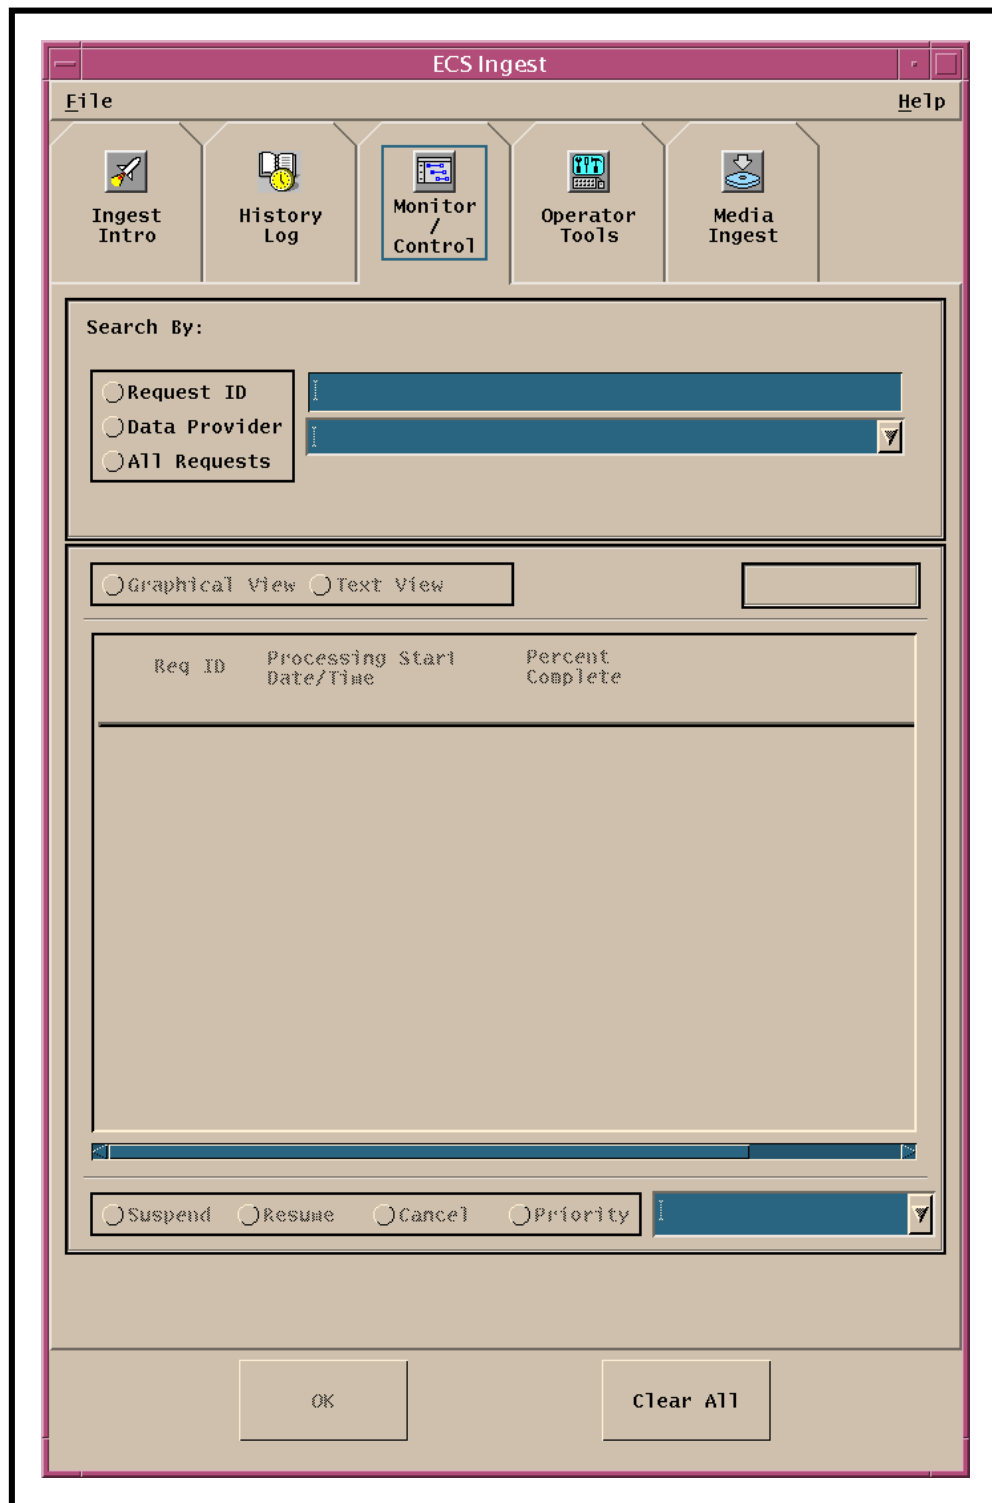

Figure 11. ECS Ingest GUI Monitor/Control Screen
- The **Monitor/Control** screen (Figure 11) is displayed.